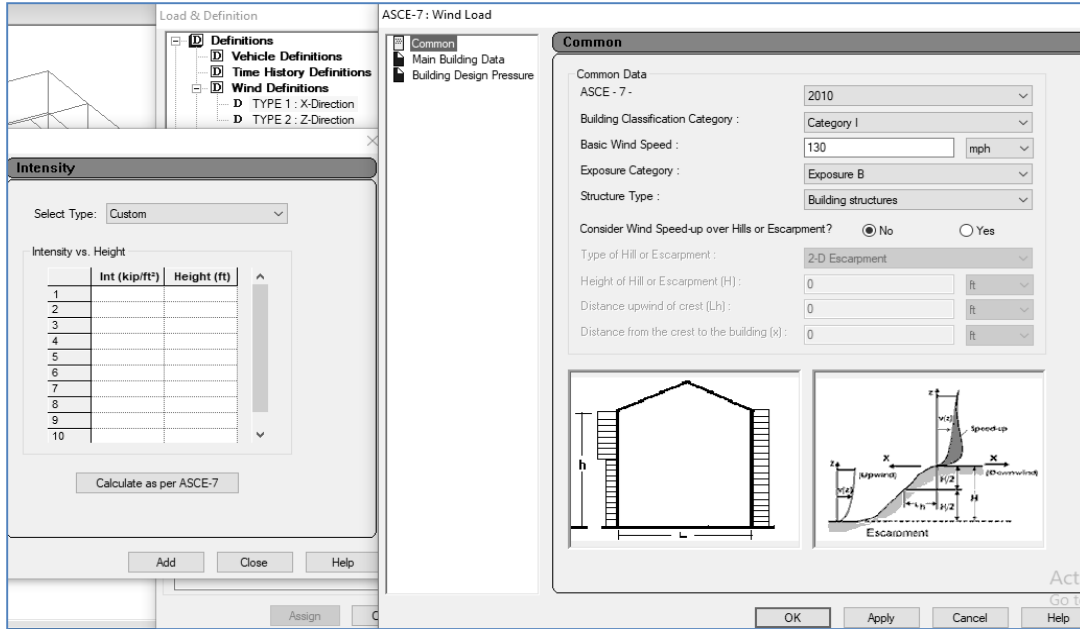
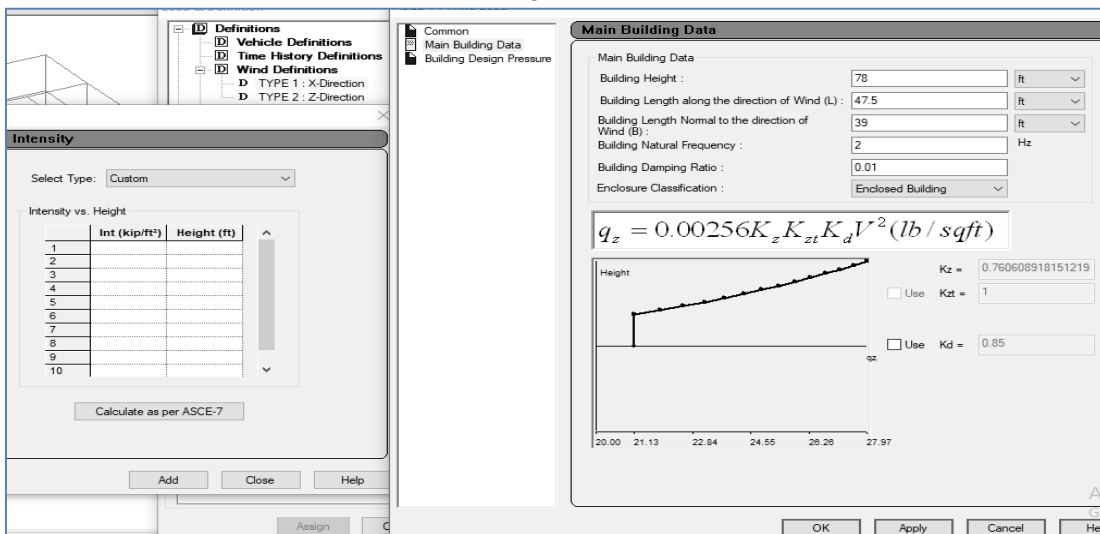

Fig: 5.16
Fig: 5.17
a. TYPE1: X-Direction→Add →Calculate as per ASCE-7→Input the Common data→Apply→Main building data according to your Project→Apply →Ok Add →Close. (Fig: 5.16 and Fig: 5.17)